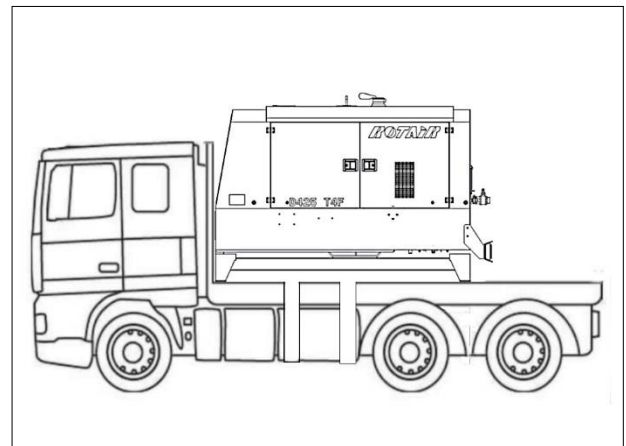

Figure 6.1-1 Instruction for towing in safe conditions
- 2) Locate the motocompressor as in Figure 6.1-1.
- 3) Make the ropes (A) pass around chassis and tighten them by means of the winches provided with the means of transport.